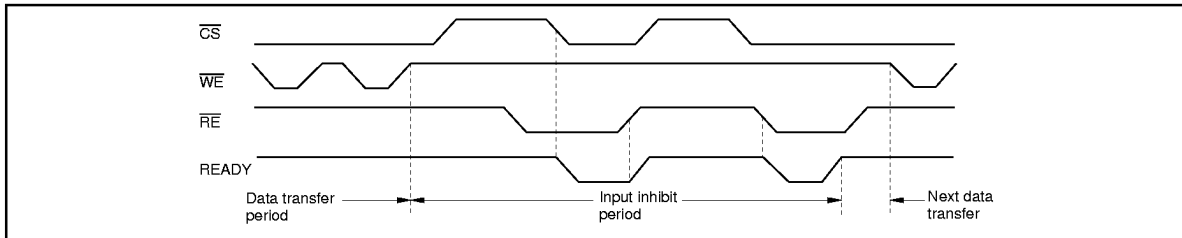

Figure 13 \overline{READY} Output Timing (When It Is Made Available by \overline{CS} and \overline{RE})
- b. READY is mode available by \overline{CS} and \overline{RE} (Figure 13).